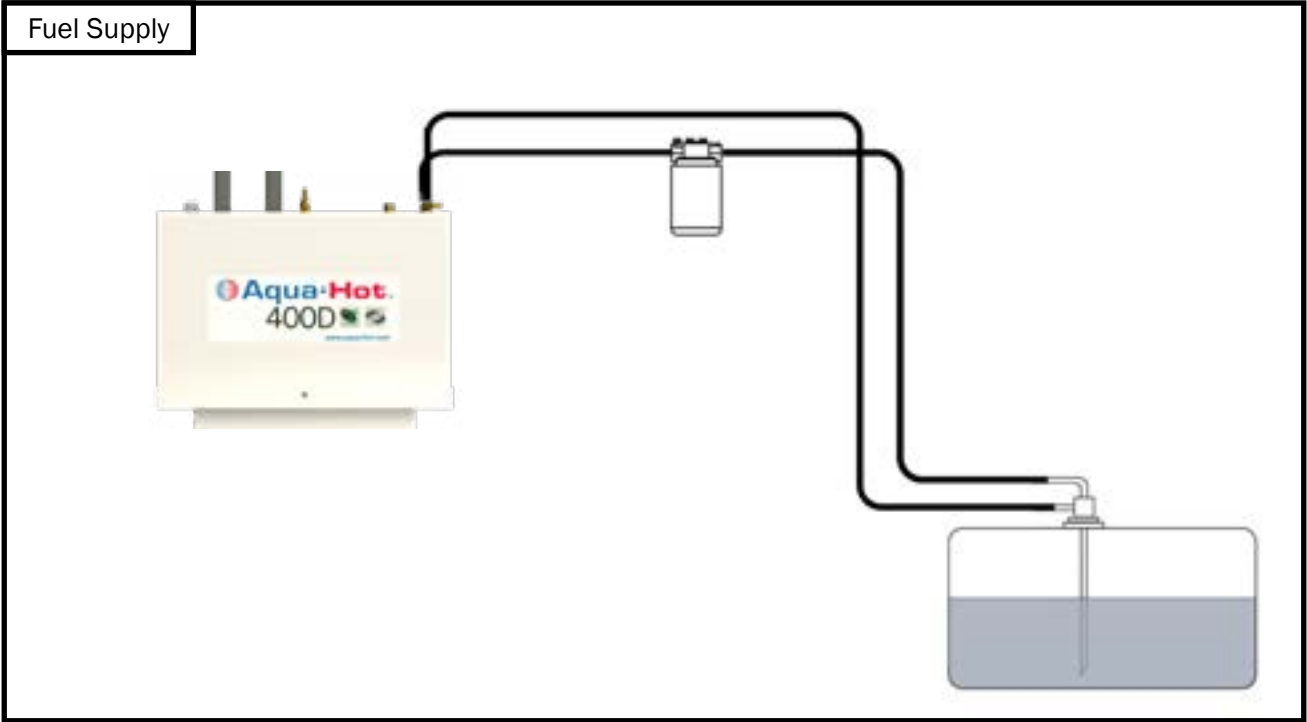

Figure 40
- The combined length of the supply and return fuel lines should not exceed 100 feet in total length. Reference Figures 40 & 41.